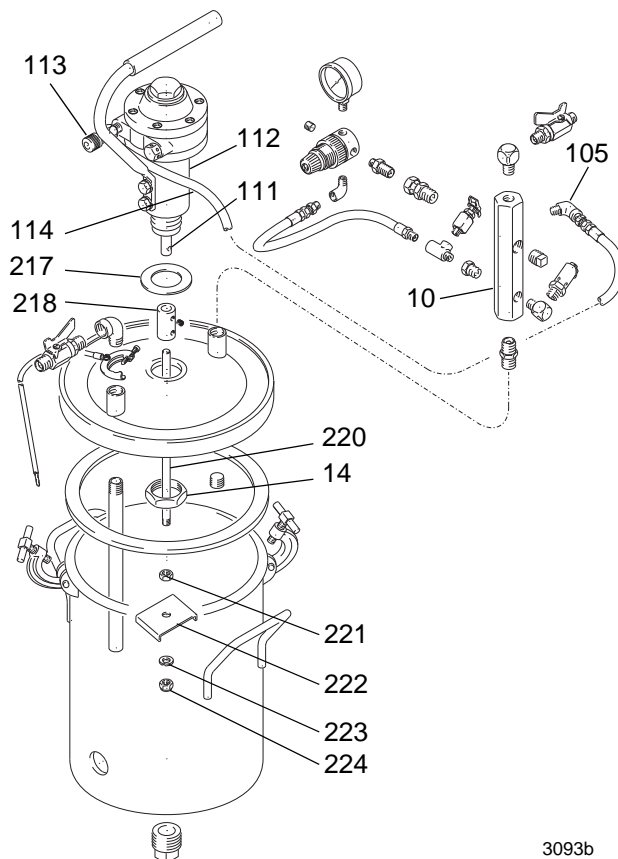

FIG. 4
3. Fit the gasket (217) under the coupling housing (112), and place the motor shaft (111) through cover's center hole. Screw the hex jam nut (14) onto the coupling housing, and torque it to 50 ft-lb (68 N-m). See FIG. 4.
4. Position the shaft coupling (218) over the motor shaft (111), and tighten the top setscrew into shaft. Insert the shaft (220) into the shaft coupling, and tighten the lower setscrew into the shaft. Thread on the nut (221), mixer blade (222), washer (223), and nut (224). See FIG. 4.
5. Connect the elbow (105) to the manifold (10) in place of plug. Connect the agitator hose (114) to the elbow (105). See FIG. 4.